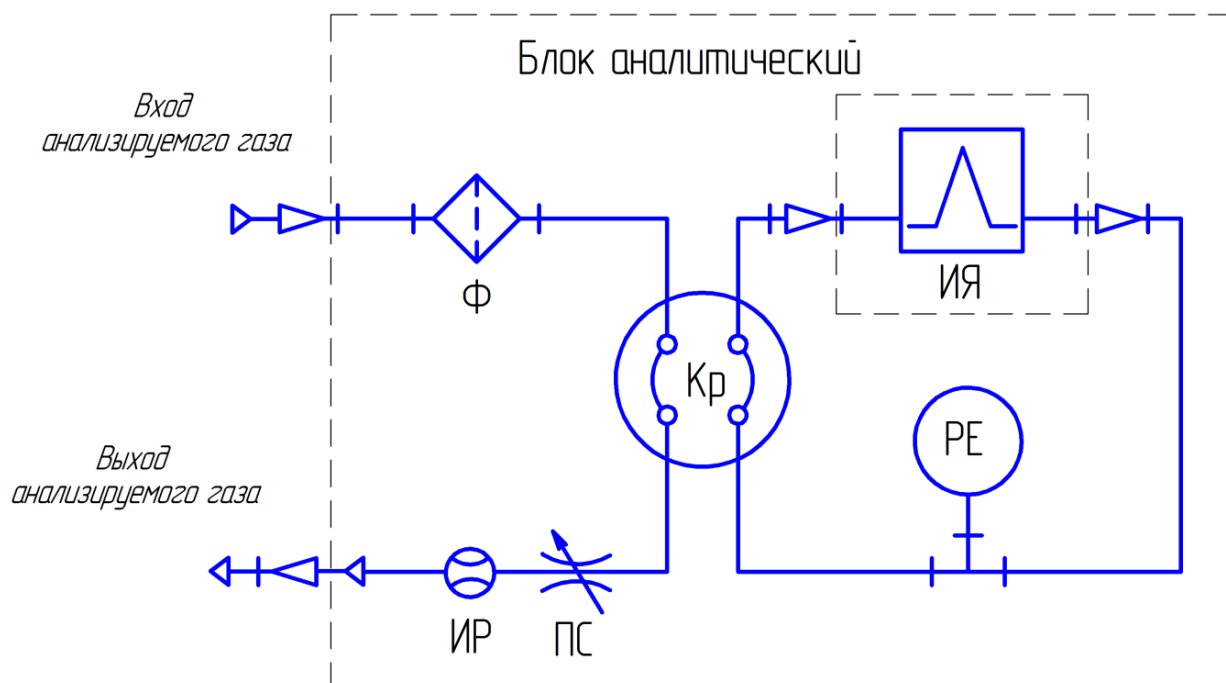

Fig. 11. The schematic gas diagram of the "HygroScan-P" analyzer
- Measuring cell (MC) - humidity and temperature transducer (sensor);
- Rotary hand-operated dispenser (Ds, see Fig. 11);
- Filter of mechanical impurities (F);
- Adjustable pneumatic resistance (PR);
- Flow indicator (FI).